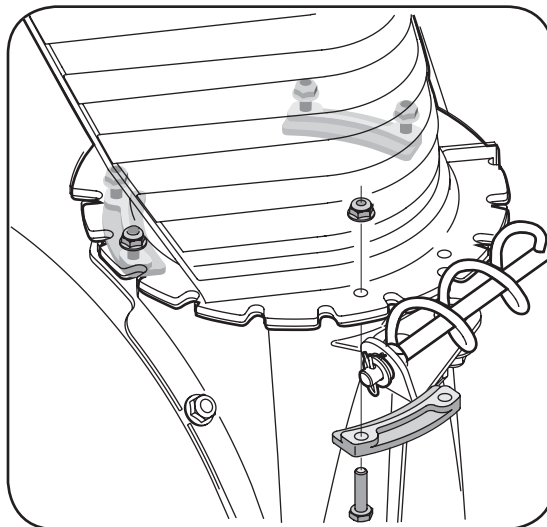

Figure 3-6
7. Secure flange keeper removed earlier with lock nuts and screws. Tighten down nuts securing the other two flange keepers. See Figure 3-6.